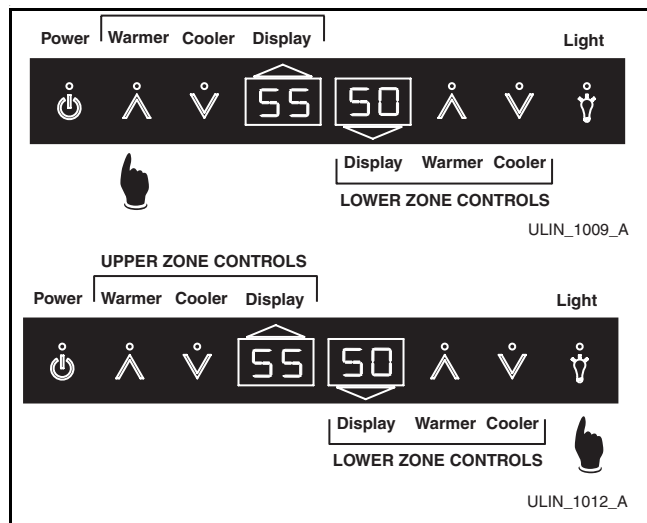

Figure 24. Adjusting Set-Point Temperature- 2275ZWC/2275ZWCOL
1. Press and release the desired zone WARMER icon to put the controller in the SET TEMPERATURE mode. The current range symbol will show on the display (**top, Figure 24**).
3. When the desired range is displayed, press the LIGHT icon to display the current set-point temperature (**bottom, Figure 24**).